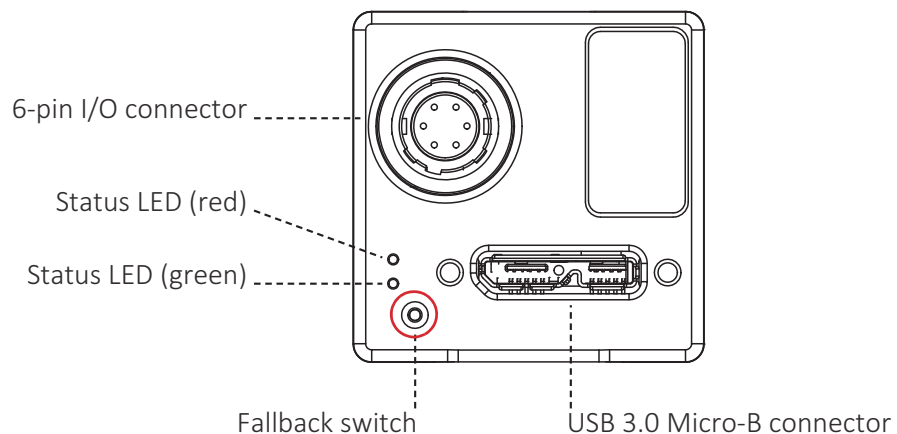

Figure 45: Mako U back panel view with fallback switch
3. Push a paper clip against the fallback switch (see Figure 45).